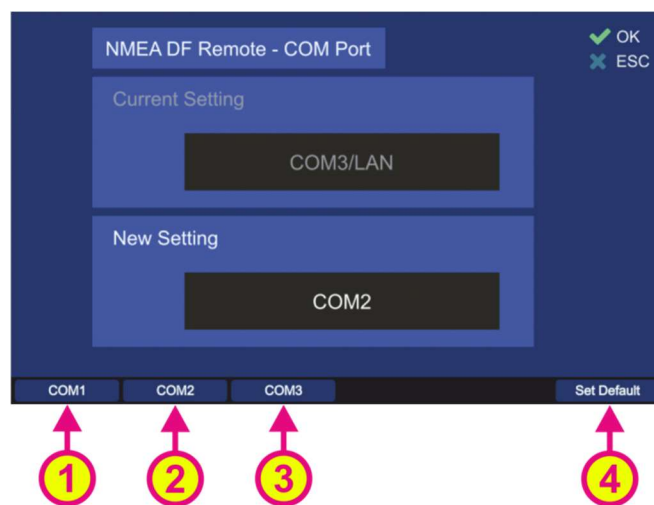

Figure 145. Remote communication port configuration
- Pressing the hotkey “Edit Value” while “Port” is marked, opens the following sub-dialog (s. Figure 145).
- Selecting “COMx” (s. Figure 145, positions 1, 2 and 3) configures the corresponding NMEA interface as the remote communication port. Choose the new setting using one of the hotkeys, which will then appear in the “New Setting” field.